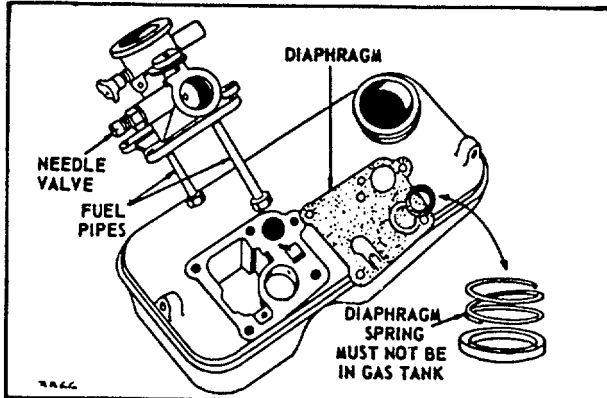

Fig. 35. - Exploded View - Carburetor and Tank Assembly
To assemble Pulsa-Jet carburetor to tank, first place diaphragm on tank. Then place spring cap and spring on diaphragm. Install carburetor and tighten four (4) screws evenly in staggered sequence to avoid distortion, Fig. 35.